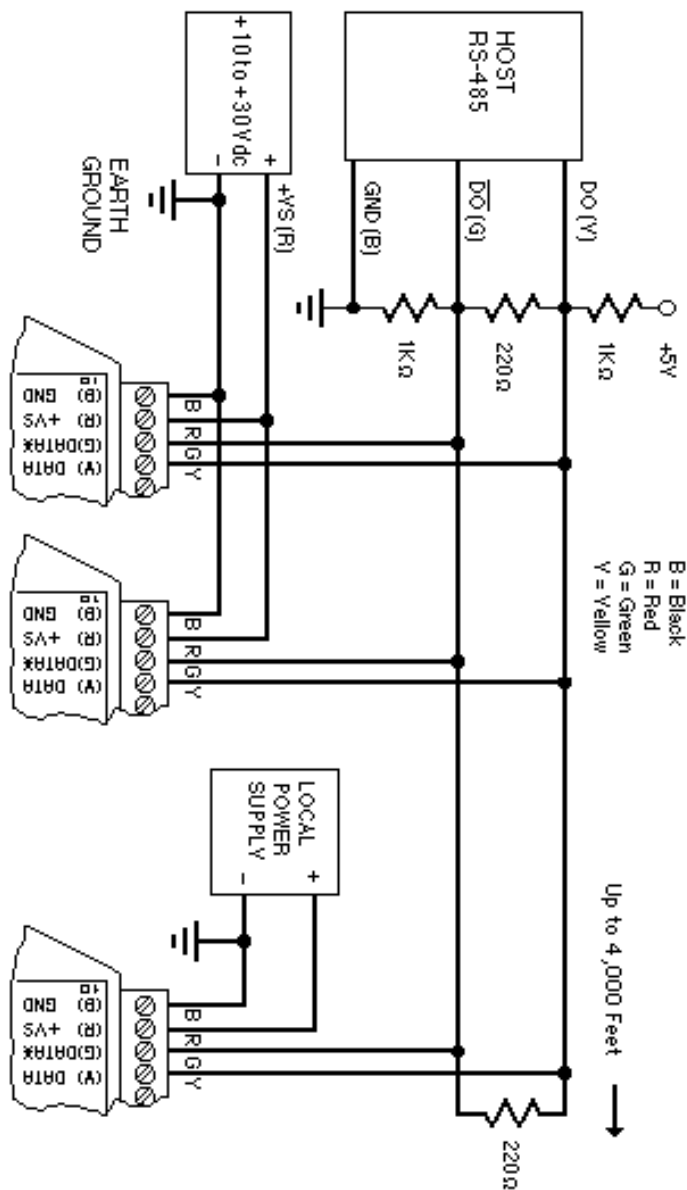

Figure 3.2 RS-485 Network.
Figure 3.2 illustrates the wiring required for multiple-module RS-485 system. Notice that every module has a direct connection to the host system. Any number of modules may be unplugged without affecting the remaining modules. Each module must be setup with a unique address and the addresses can be in any order. All RS-485 modules must be setup for no echo to avoid bus conflicts (see Setup). Also note that the connector pins on each module are labelled with notations (B), (R), (G), and (Y). This designates the colors used on standard 4-wire telephone cable:
When using a bi-directional RS-485 system, there are unavoidable periods of time when all stations on the line are in receive mode. During this time, the communications lines are left floating and are very susceptible to noise. To prevent the generation of random characters, the lines should be biased in a MARK condition as shown in Figure 3.2. The 1K resistors are used to keep the DATA line more positive than the DATA* line when none of the RS-